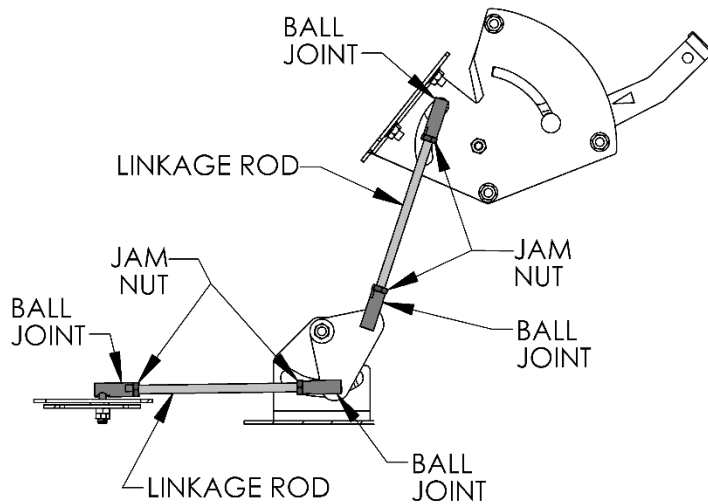

FIGURE 16.3
- 7) After the nuts are loosened turn the linkage rod to lengthen or shorten the rod as needed to bring the plate into the correct position as shown in **FIGURE 16.3**. Re-tighten the jam nuts on the linkage rod.
- 10) After the rods have been adjusted, verify they are correct by loosening the Flow Control Adjustment Knob and moving the Handle to Setting (4) fully open. Look inside the Hopper and verify the Holes are Fully Opened.